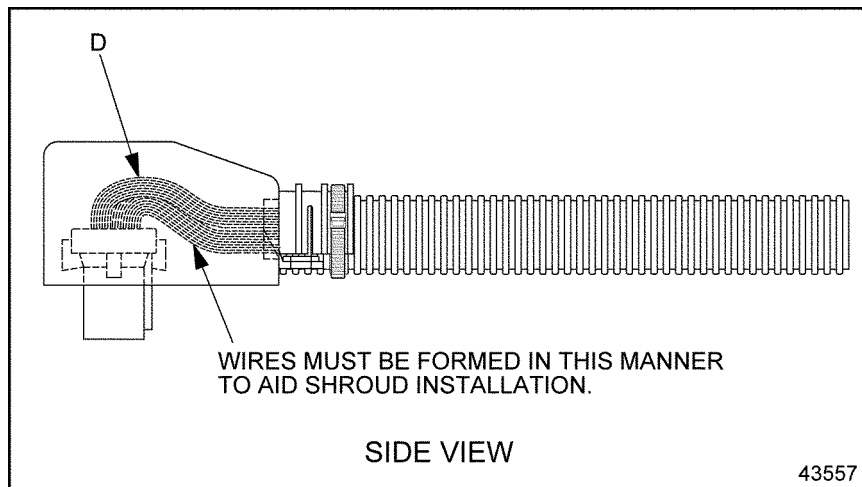

Figure 16-34 Side View of Shroud, ECM/ECU Connector and Conduit
5. Ensure that the wires are not pinched between the connector and any of the shroud's protrusions during assembly (see Figure 16-34, D).